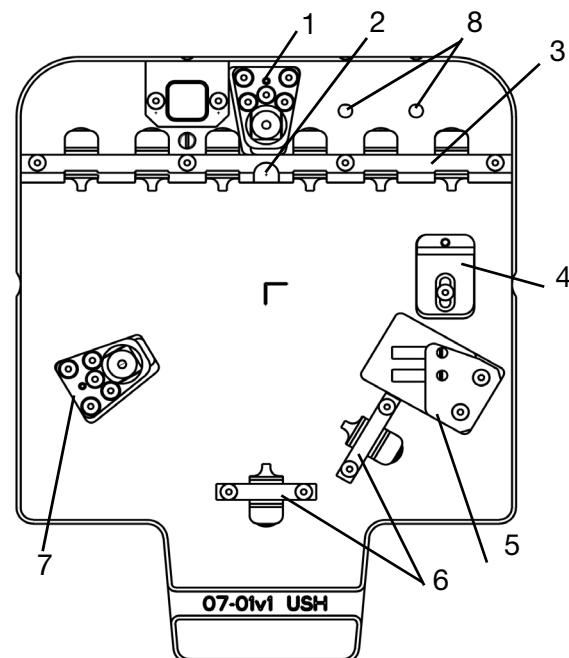

Figure 3-18: Universal sample holder with tools for fixing the samples
- Three sapphire kinematic mounts (⇒ Figure 3-18), for precise location of the sample holder on three ceramic spheres.